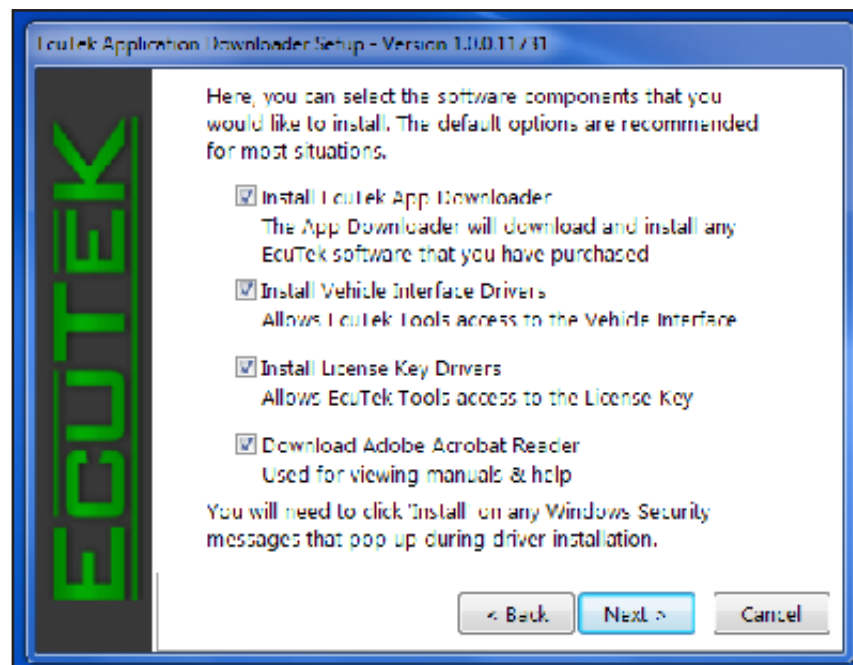

Fig. 1D
- D. Next, you will be prompted to install the necessary software and drivers. It is recommended to use the default settings. If you have Adobe Reader installed, you can uncheck this part of the installation. Select [Next] to continue. See Fig 1D.